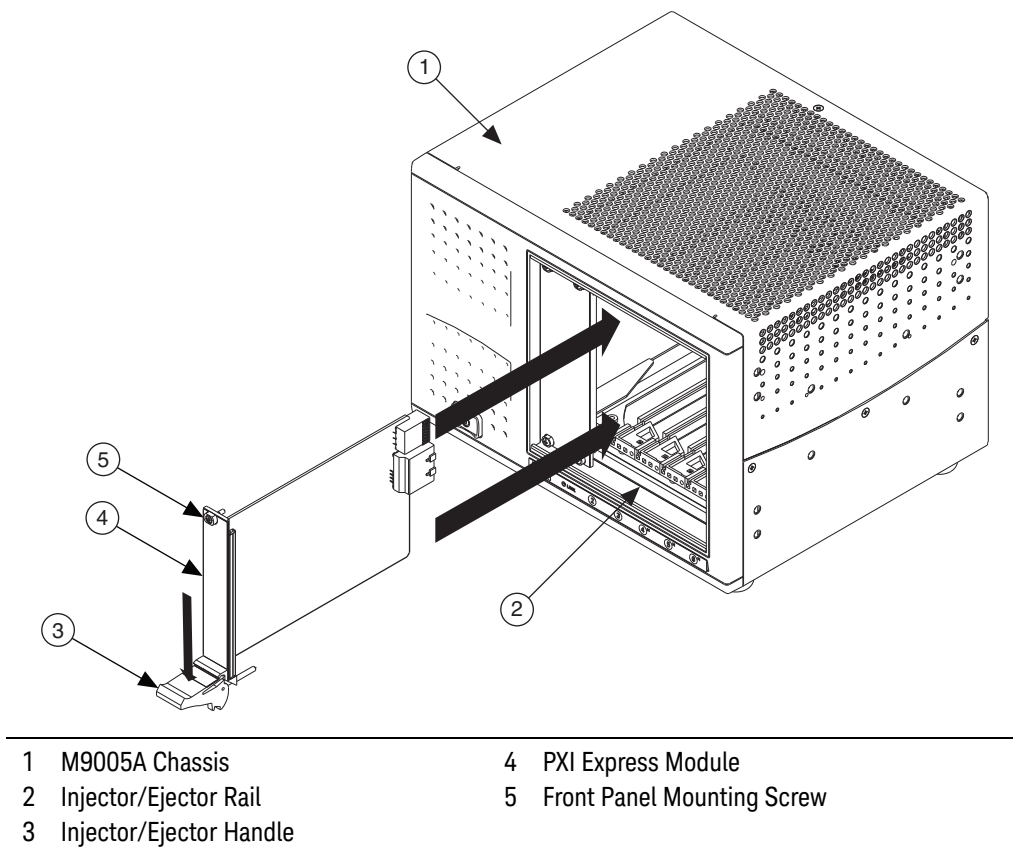

Figure 12 Installing PXI or CompactPCI Modules
- 4 Install a module into a chassis slot by first placing the module card PCB into the front of the card guides (top and bottom), as shown in Figure 12. Slide the module to the rear of the chassis, making sure that the injector/ejector handle is pushed down as shown in Figure 12.